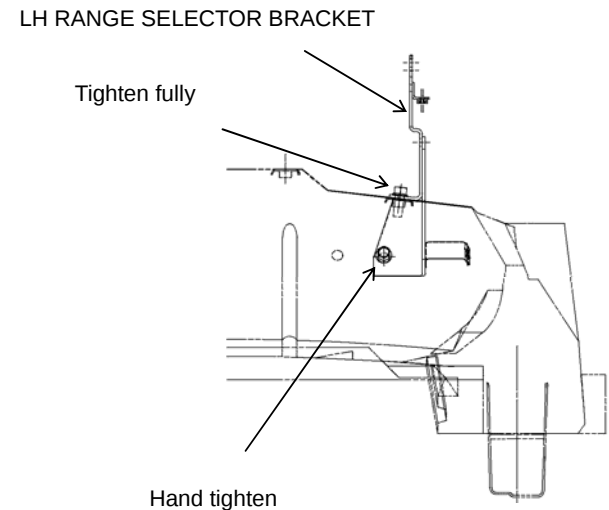

Fig 10. Installation of LH Bracket (Front View)
2. Install LH RANGE SELECTOR BRACKET on the Cab Floor as shown in Figure 10. (Tighten rearward Bolt fully, hand tighten Forward Bolt)